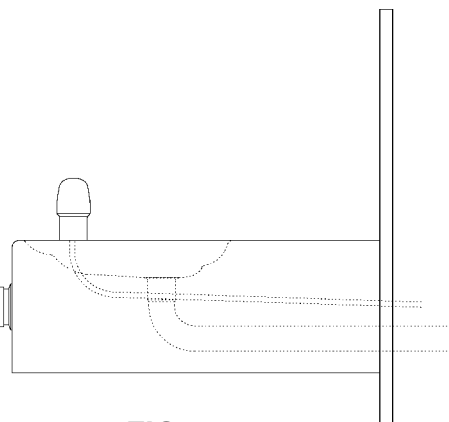

FIG. 5
4. Connect water line from fountain bubbler into freeze resistant box. The connection to the box uses a quick connect water fitting. Position the water line, in the fountain, to drain back into interior mounted box. Any water left standing, in the exterior line, can freeze. See Figure 5